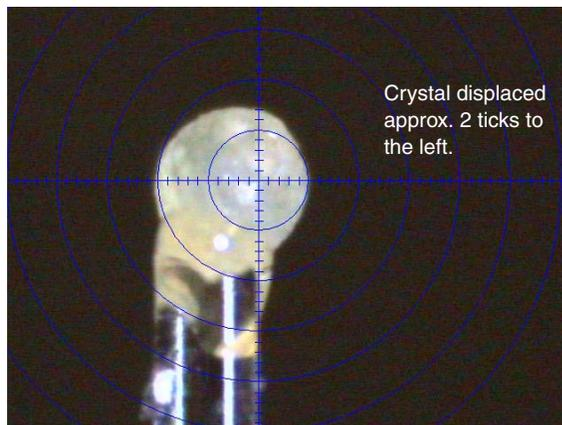

Figure 5.9 – Example: error in Y-axis
3.1 Use the adjustment screw facing you to remove **half** of the difference shown in the reticle (Figures 5.9 and 5.10).